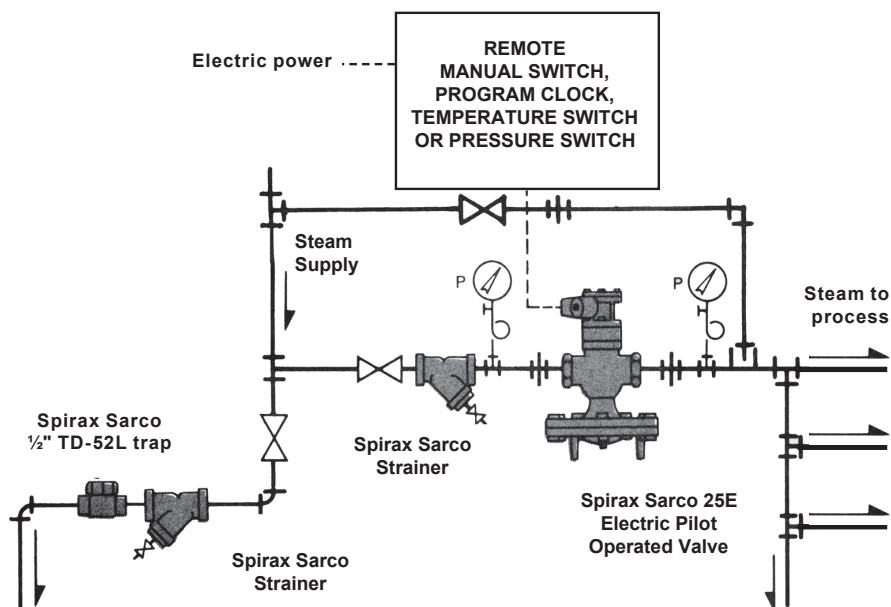

Fig. 1 Automatic Control Valve Electrically Operated from Remote Station or Stations
1. Typical hookup sketches as shown in Figures 1 and 2 will aid in planning a correct installation.
4. Regulating valve should always be installed in a horizontal line. (See Figures 1 and 2)
1. A bypass connection, as shown in Figures 1 and 2, is recommended so that the valve can be serviced without shutting down the equipment.
To insure proper operation of the valve and avoid premature wear, it is recommended that on steam applications a steam trap be installed on the same supply line. (See Figures 1 and 2)
1. It is strongly recommended that strainers be installed before the regulating valve and steam traps. (Figures 1 and 2)